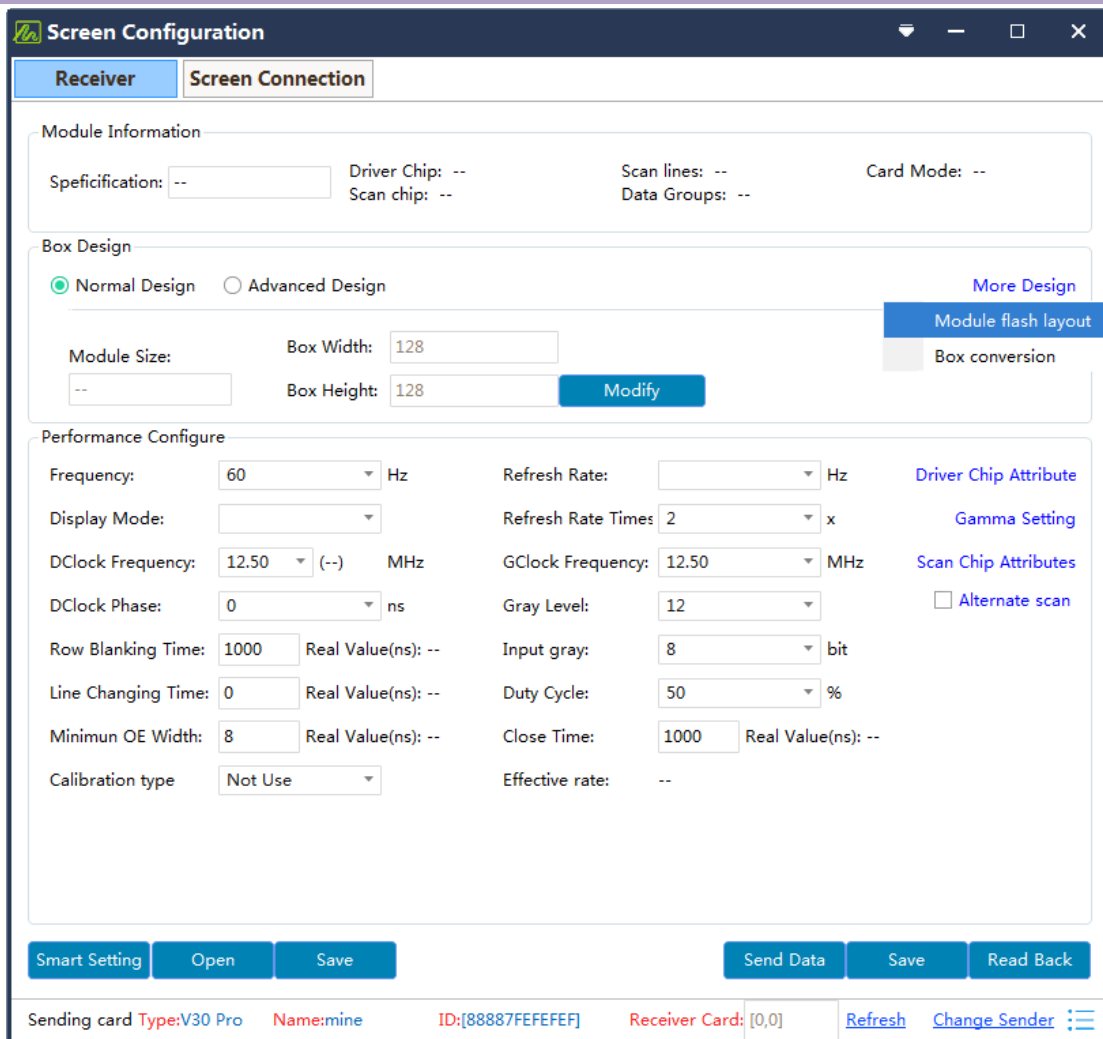

Figure 4-7-2 Module flash layout setting
(2) **More Design(Module Flash Calibration File Save).** If the module has a flash read-write calibration data design, the position layout settings of the flash chip needs to be set on the receiver interface “ More Design”. The setting entrance is shown in Figure 4-7-2: